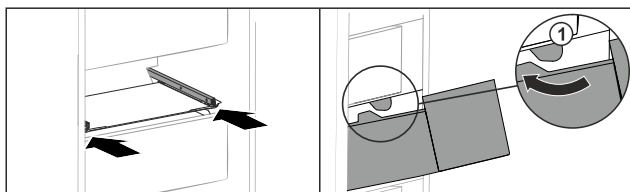

Fig. 149
- Vendoseni sirtarin mbi ndalues Fig. 149 (1).